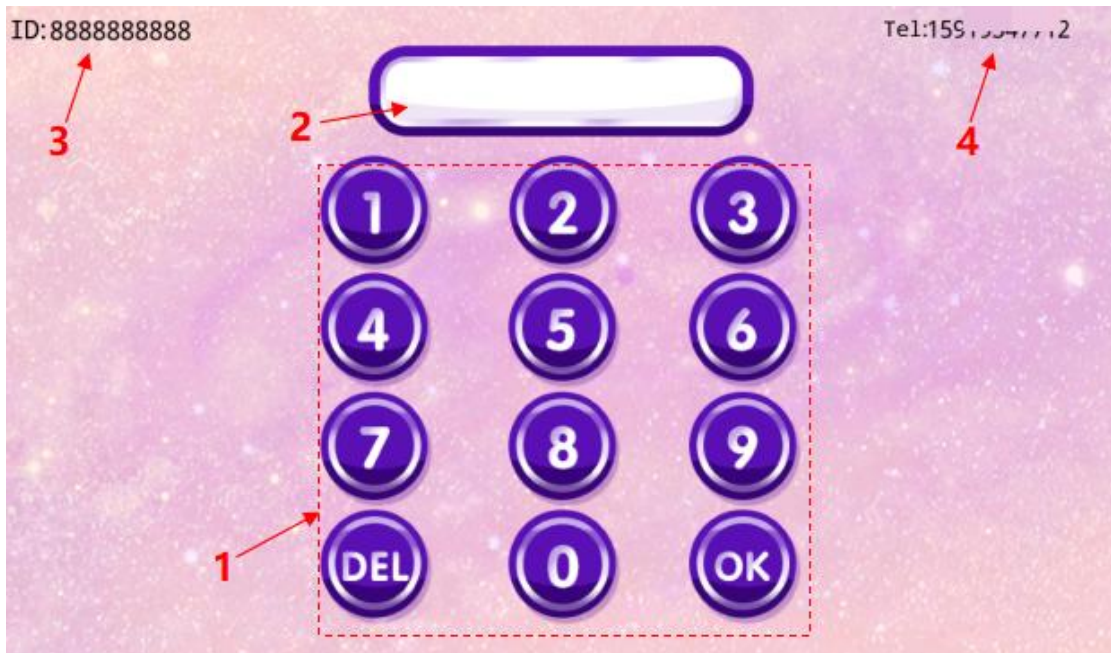

Figure 3.1.1, commodity purchase interface
- 1-Exit to the main background interface (Figure 3.1.1)